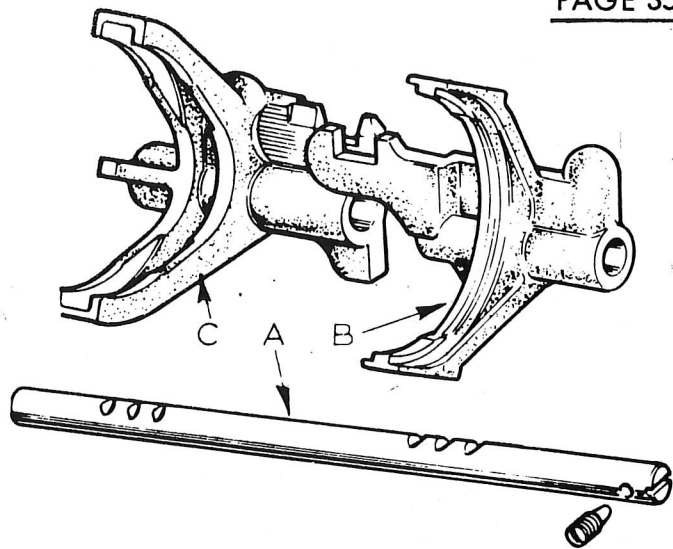

Fig.22. SELECTOR FORKS AND SHAFT
9. Remove the selector shaft locating screw, this being the socket-headed screw on the right-hand front of casing. Turn the shaft (A, Fig. 22) through 180° and push out towards front of casing. As the shaft is pushed through the selector forks (B and C, Fig.22), insert the dummy shafts (Special Tool 14A) into the forks to retain the detent springs and balls.
10. Remove the 1st./2nd. (B, Fig.22) and 3rd./4th. (C, Fig.22) selector forks.